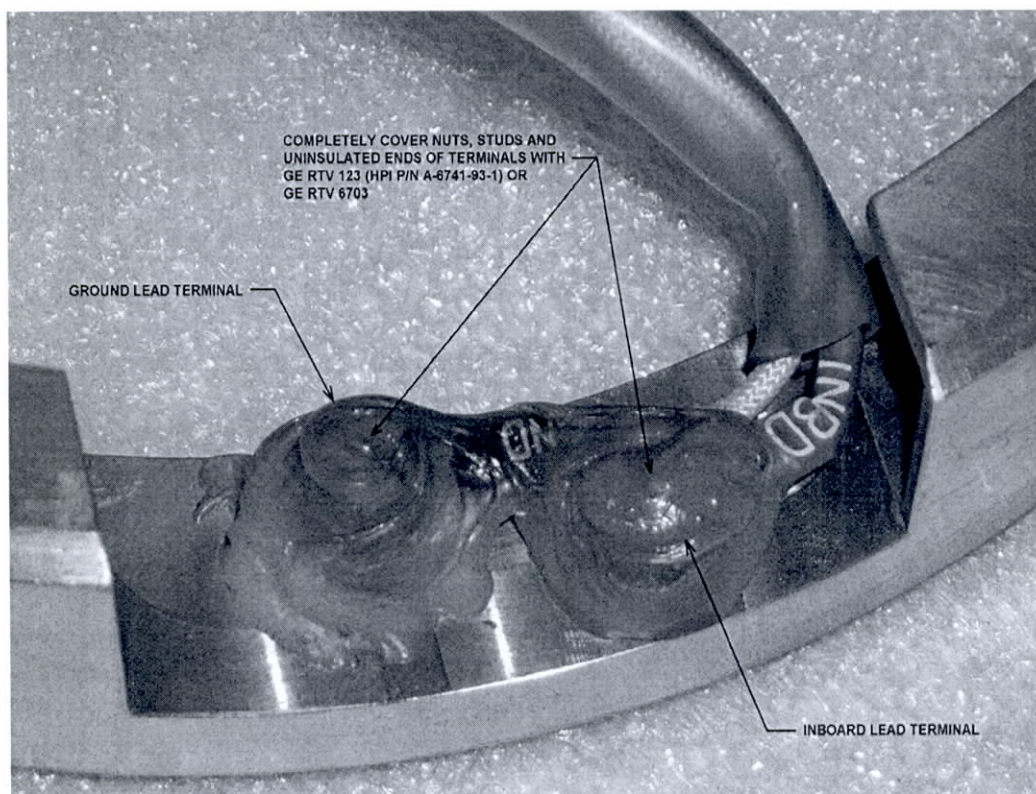

FIGURE 2
3. Verify P/N 104511 inboard (outer diameter terminal) and ground (inner diameter terminal) leads are connected per Figure 2. Torque nuts 8-10 in-lbs. Completely cover nuts, studs and uninsulated ends of terminals with GE RTV 123 (HPI P/N A-6741-93-1) or GE RTV 6703.